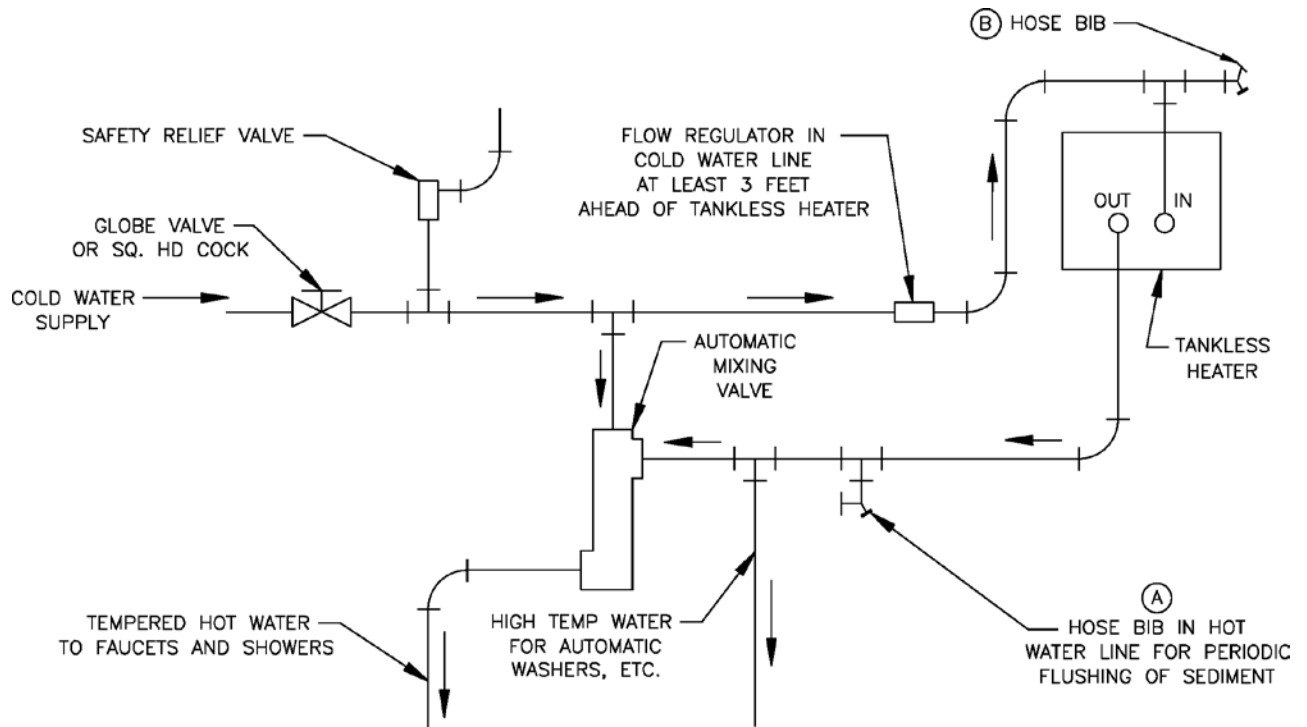

Figure 10: Schematic Tankless Heater Piping
- F. CONNECT TANKLESS HEATER PIPING AS SHOWN IN FIGURE 10. See Table 1 for Tankless Heater Rating.
2. TEMPERING OF HOT WATER — Installation of an automatic mixing valve will lengthen the delivery of the available hot water by mixing some cold water with the hot. This prevents the possibility of scalding hot water at the fixtures. In addition, savings of hot water will be achieved since the user will not waste as much hot water while seeking a water temperature. Higher temperature hot water required by dishwashers and automatic washers is possible by piping the hot water from the heater prior to entering the mixing valve. The mixing valve should be "trapped" by installing it below the cold water inlet to heater to prevent lime formation in the valve. Refer to Figure 10.